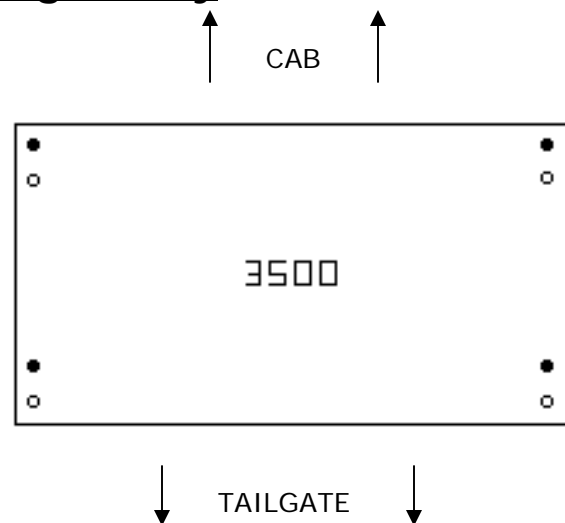

Figure 6
2. Mark the 4 outside holes as shown in Figure 6.